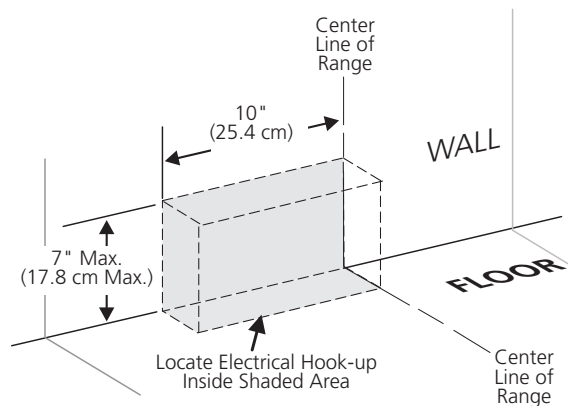

Figure 1
**Suggested location of the junction box or wall receptacle is shown in Figure 1.**